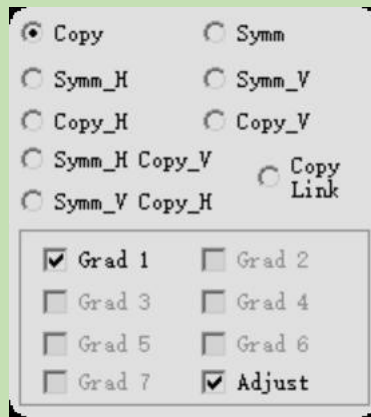

Figure10-29
1. Select the copying method as shown in Figure 10-29.